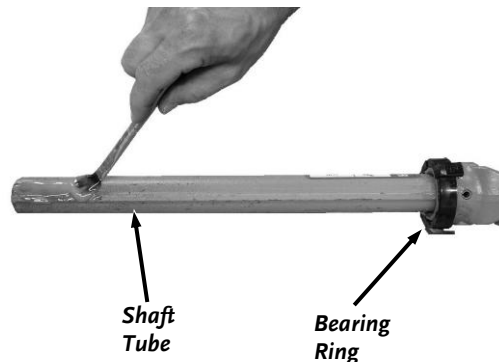

Figure 18
6. Grease both Shaft Tubes and under the Bearing Rings of each Shaft (**Figure 18**).